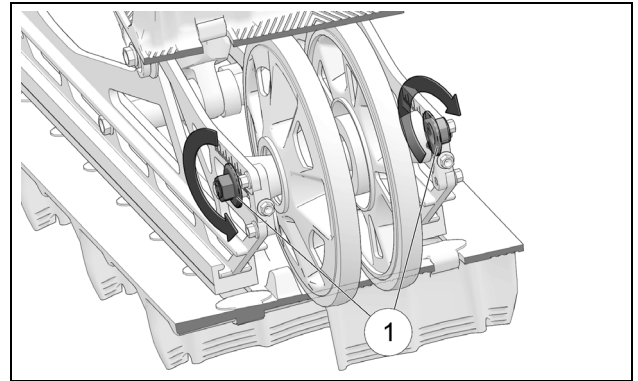

Figure 50
**CAUTION:** The two rear wheel assembly axle nuts (1) must be loosened before adjusting Track tension. See Figure 50.
- Tighten the two rear wheel axle nuts (1) back to 55 Nm (38 lb-ft) of torque. See Figure 50.